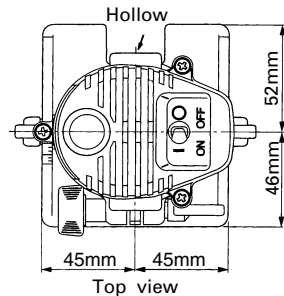

Fig. 1
5. Cutting using the workpiece edge as a base line (Fig. 1)